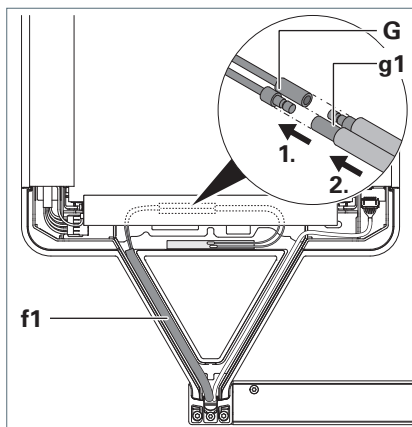

Fig. 15: Connecting the aerial.
4. Lay the supply cable **f1** from the cross-bar into the supporting arm of the luminaire head, see Fig. 15.